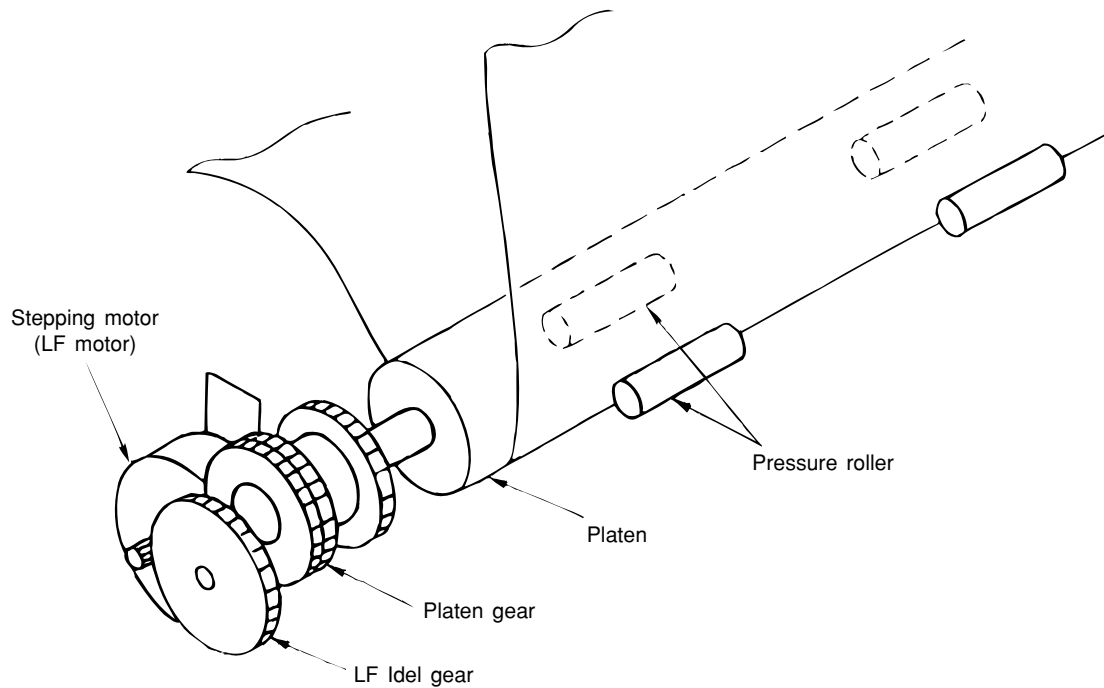

Figure 2-9
(2) Cut-sheet feeder operation (See Figure 2-9.)